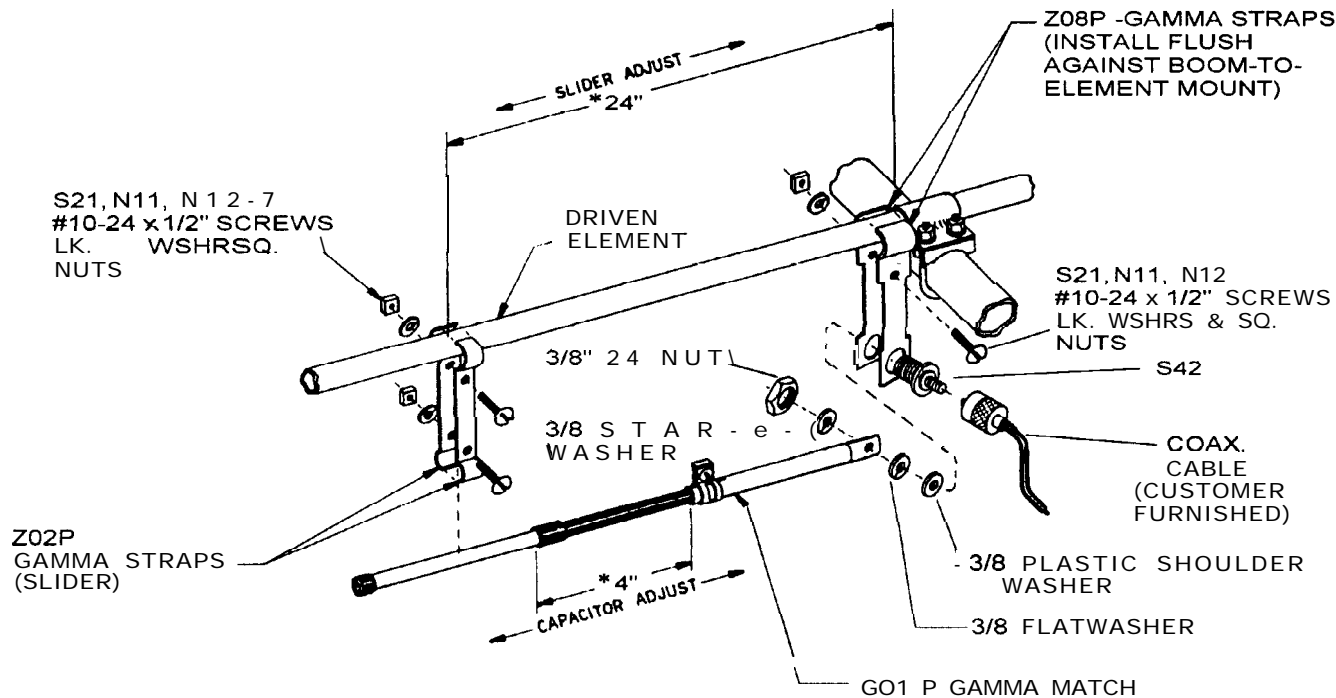

FIGURE 4 GAMMA MATCH MOUNTING
Refer to the main sketch (Figures 1A & B) for spacing of the elements. Slide the 5/8" x 6' center sections inside the boom to element mounts. Mount these onto the boom with 3" U-bolt assemblies as shown. Refer to Figure 4 (Gamma Match Assembly) before mounting the driven element and note the position of the coaxial connector assembly. Space the first saddle 1" from the end of the boom. Again, be careful not to over-tighten the U-bolts. Line up all the sections after mounting with a level or by any other accurate means. At this time, refer to Figure 2B and complete the boom guy support system.
Assemble the W58 clamps as shown in Figure 2B. Thread the 1/2" machine screw (S21) into the square nuts (N1) only slightly at this time. Refer to Figure 4 (Gamma Match Assembly) and note the position of the 5/8" metal clamps that will attach the gamma match to the driven position.
Refer to Figure 4. The dimensions given are approximate and should be used as a starting point. * The gamma match has 2 adjustments. First is the capacitor adjust and second is the slider adjust. Connect a SWR bridge coax between your transmitter and the antenna and check the SWR. If adjustment is required, loosen the clamp on the gamma match and the screws holding the slider (gamma straps (202)). Next move the capacitor adjustment first one direction, then the other until a minimum SWR reading is obtained. If SWR is not yet satisfactory, move the slider out 2" away from the boom. If the reading has gone up move the slider back to the original position and then 2" towards the boom. Now readjust the capacitor for minimum SWR. You should now be able to determine which direction to move the slider. Repeat the above procedure moving the slider in smaller increments until a satisfactory SWR is obtained. Tighten all hardware. Disconnect the SWR bridge and reconnect your coaxial cable.